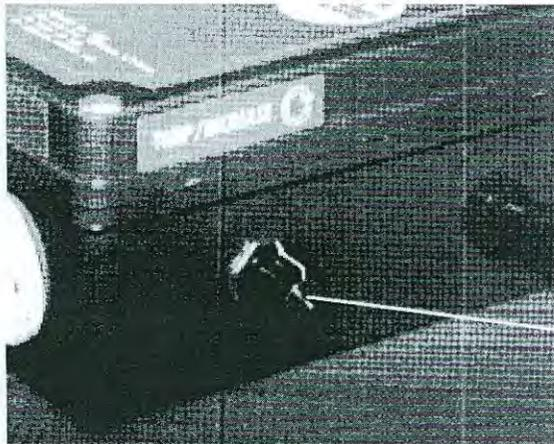

fig 9: Temperature control knob
- 3/ Turn the thermostat control knob around clockwise to high to allow system to operate (fig 9).